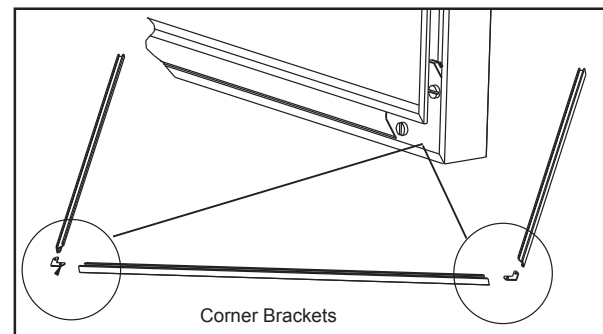

Figure 21.3
4. Using a standard flat screw driver tighten the corner brackets. **Figure 21.3.**